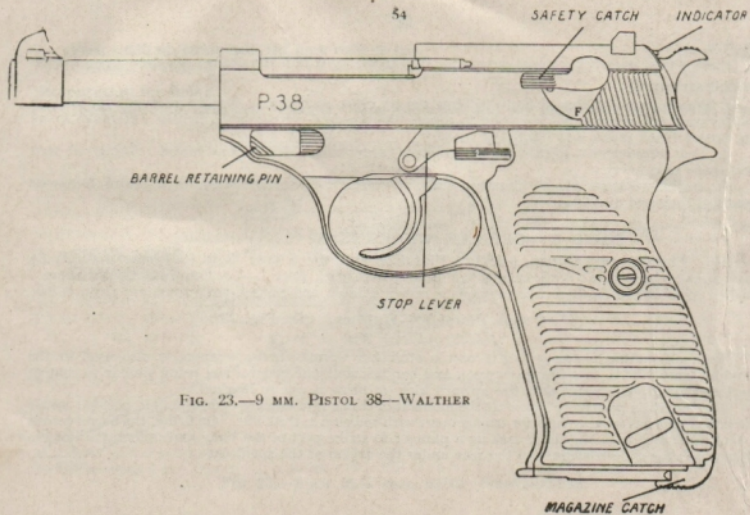

FIG. 23.—9 MM. PISTOL 38—WALTHER
**37. 9 mm. Pistol 38—Walther.** (See Fig. 23)*Pistole 38.*